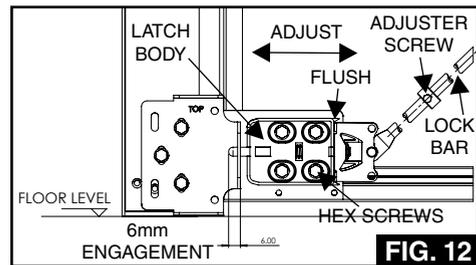

FIG. 12
From inside garage with door fully closed, check that latch pin has approximately 6mm engagement in latch keep (See Fig 12).
- prise off latch body cover and loosen off 4 Hex HD screws securing latch body to door (See Fig 12).
- Ensure bell crank is flush with latch body (See Fig 12) and re-tighten lock bar adjuster screw.